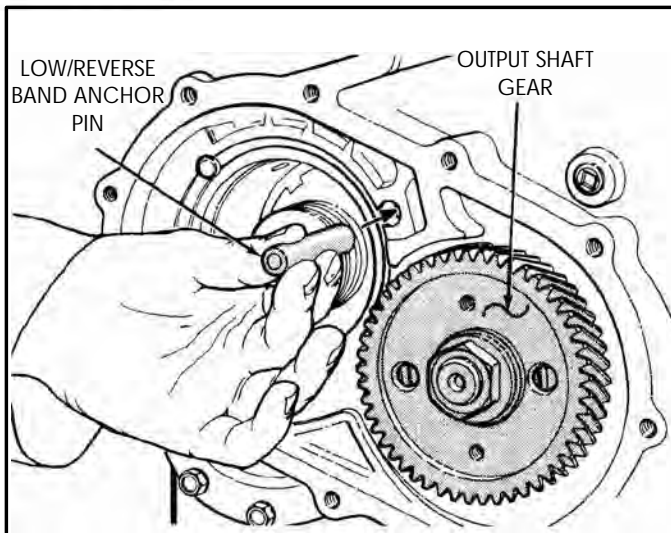

Figure 200
16. Install low/reverse servo lever and band anchor pin **before** installing transfer shaft gear. Refer to Figure 200.